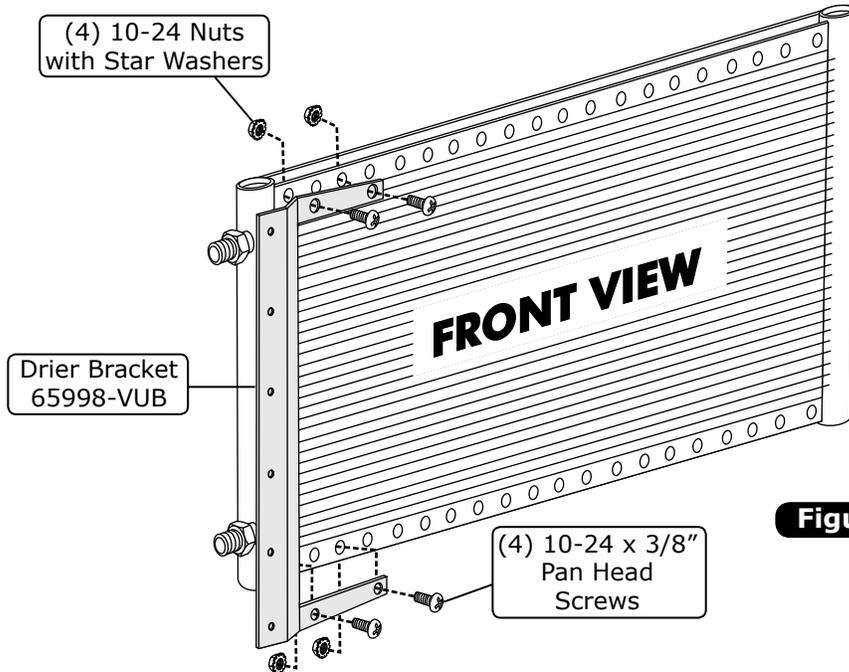

Figure 2
1. On a workbench, install the drier mounting bracket onto the condenser using (4) 10-24 x 3/8" pan head screws and (4) 10-24 nuts with star washers (See Figure 2, below). **NOTE: The bracket mounts through the 1st and 3rd holes of the condenser.**